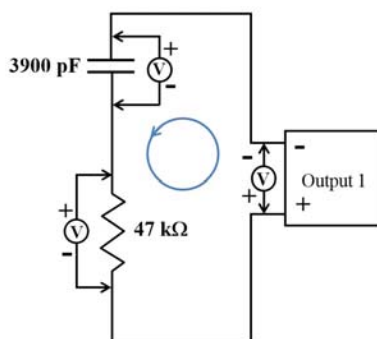
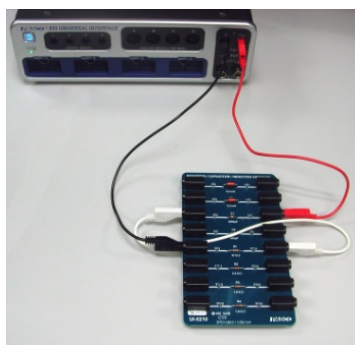
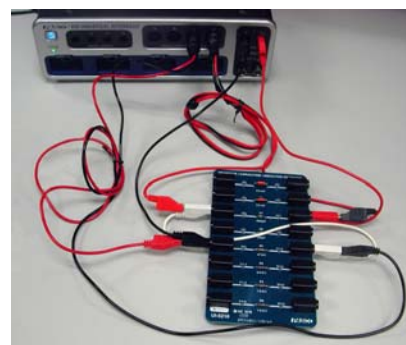

Fig. 10: Circuit Diagram
Figure 11: RC Series
Figure 12: Adding the Sensors
Construct the circuit shown in the Circuit Diagram (Figure 10) with reference to Figures 11 and 12:
- First construct the series circuit shown in Figure 11 using the 3900 pF capacitor and the 47 kΩ resistor. Note the polarities, with the red lead from the 850 Output 1 attached to
2. Now add the Voltage Sensors as shown in Figure 12. The polarities must match that shown in Circuit Diagram (Fig. 10) with the red leads on the left ends of the resistor and capacitor. The Voltage Sensor across the resistor must attach to Channel C and the Voltage Sensor across the Capacitor must attach to Channel D.